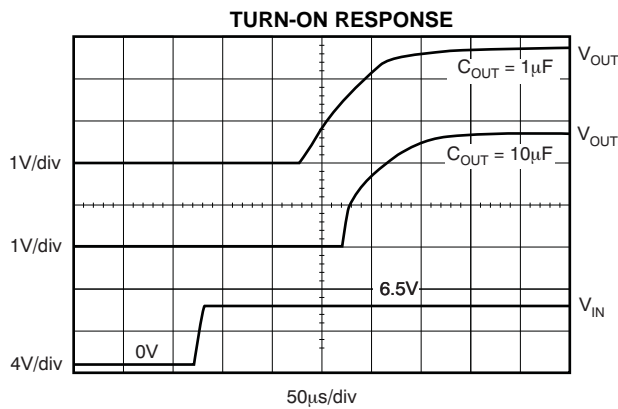

Figure 31.
Note that for fastest startup,  $V_{IN}$  should be applied first, then the enable pin (EN) driven high. If EN is tied to IN, startup will be somewhat slower. Refer to Figure 31 in the Typical Characteristics section. The quick-start switch is closed for approximately  $135\mu\text{s}$ . To ensure that  $C_{NR}$  is fully charged during the quick-start time, a  $0.01\mu\text{F}$  or smaller capacitor should be used.